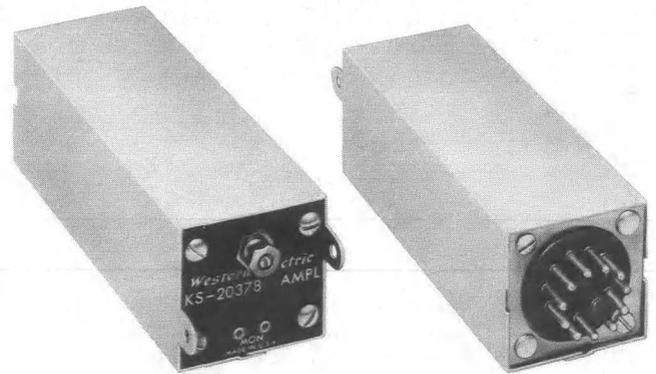

Fig. 1—KS-20378 Amplifier
**1.07** The KS-20378 L1 and L2 amplifiers are designed for mounting on a shelf per J98615 on 1-3/4 inch centers or any V3 repeater shelf. Overall dimensions are approximately 1 5/8 by 1 5/8 by 5 inches long. (See Fig. 1.)